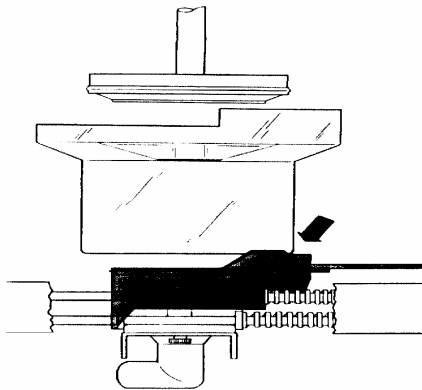

**FIGURE 608**
- In the Home position the piston rod between the top of the piston and bottom side of bridge should measure approximately 1 3/8 inches (see Figure 608 below).
- On the front side of the Coffee Driver Board, press and hold in the Brewer Test button to allow brewer to fully cycle until it stops on its own in the home position. Continue performing steps a) & b) until measurement of piston rod is 1 3/8" (see Figure 608).
- The alignment shoulder of the carriage moved slightly behind the rear vertical edge of the clear cylinder just as the cylinder starts down (see Figure 608).